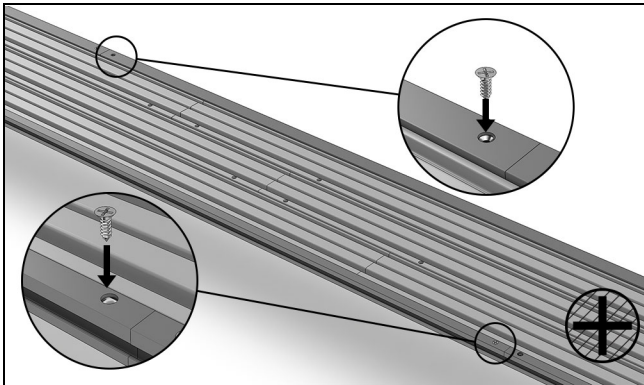

Figure 22
7. Fasten the splice keys with the screws you removed earlier. See Figure 22.